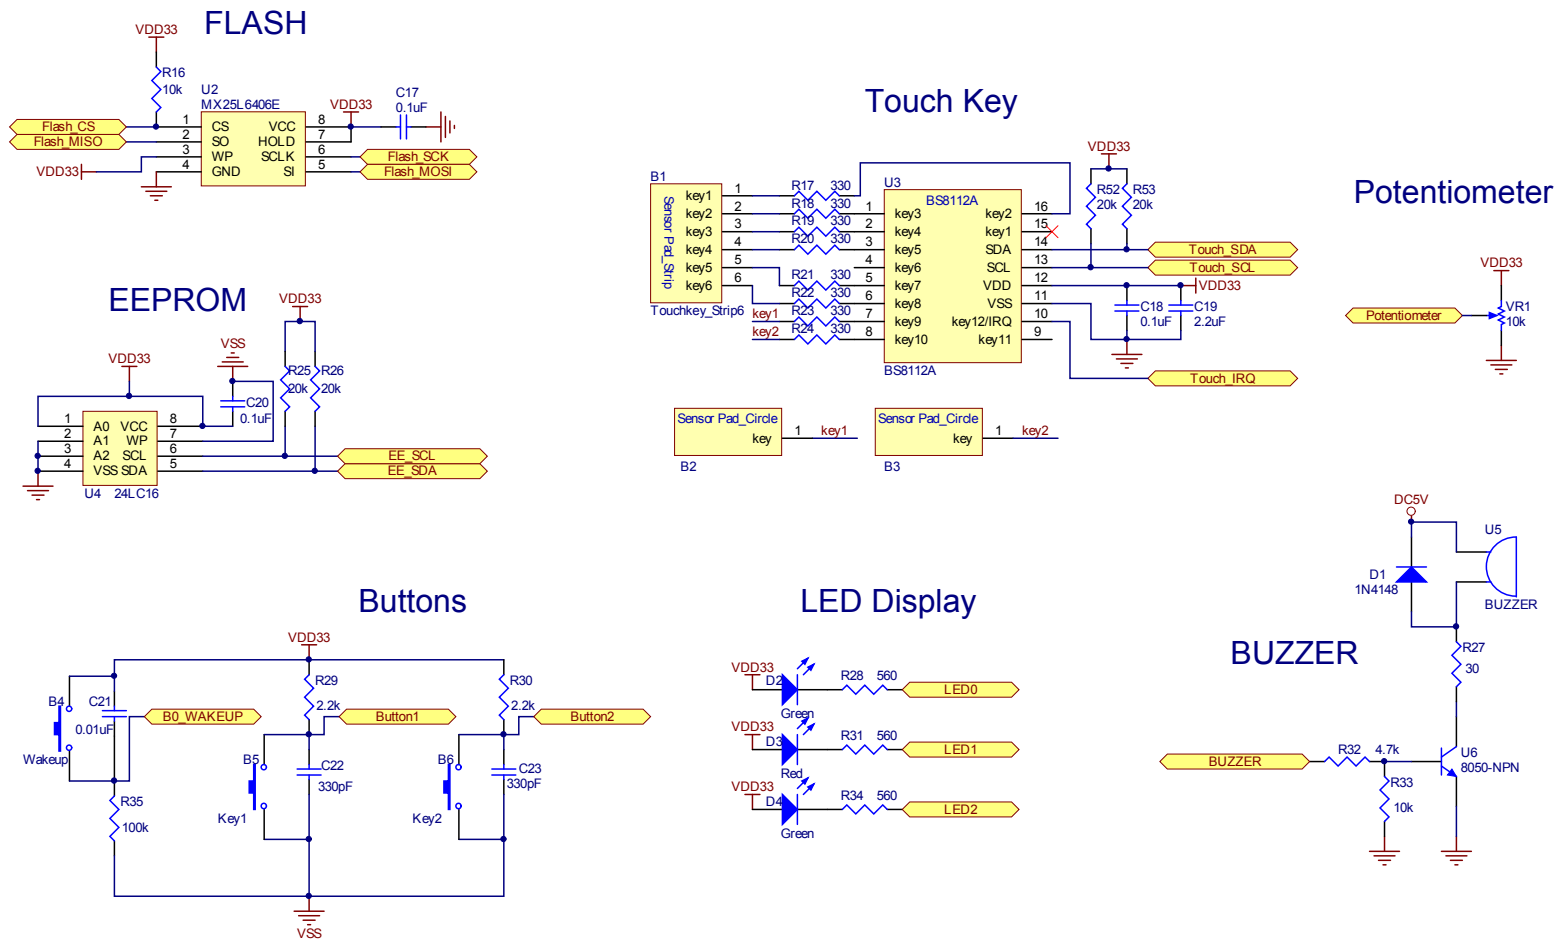

Figure 15. FLASH, EEPROM, TouchKey, Buttons, BUZZER, LED Display and Potentiometer
- Figure 15. includes the FLASH, EEPROM, TouchKey, Buttons, BUZZER, LED Display and Potentiometer.